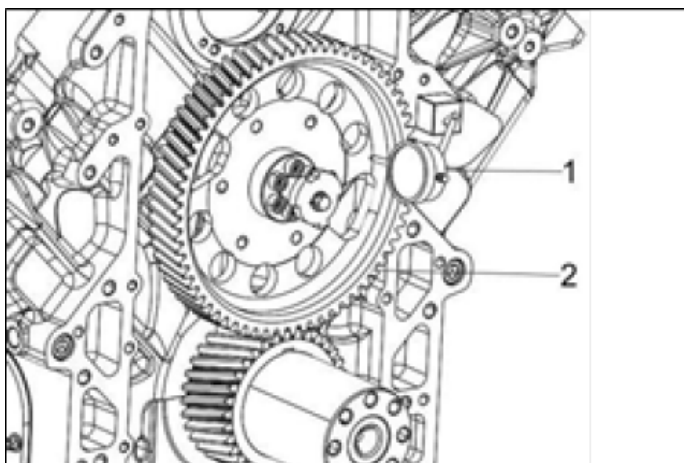

Figure 90.
1. Install a dial indicator (Figure 90, item 1) on the cylinder block. Move the camshaft (Figure 90, item 2) back and forth to measure the end play. Record the measurement. See Camshaft specifications for the service limit.